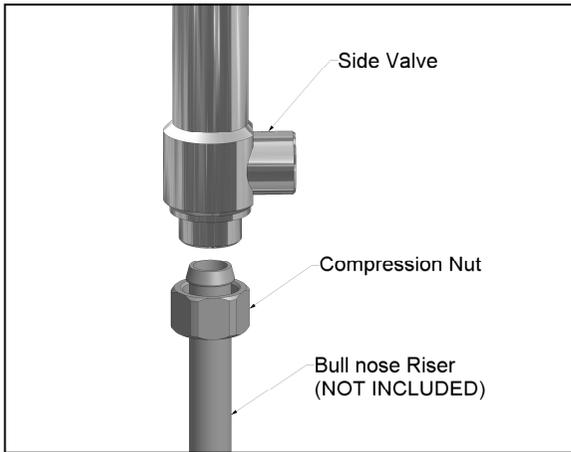

Fig.3
11. Connect the Hot and Cold water supply to the bottom of the side valves using either: see [fig.3]